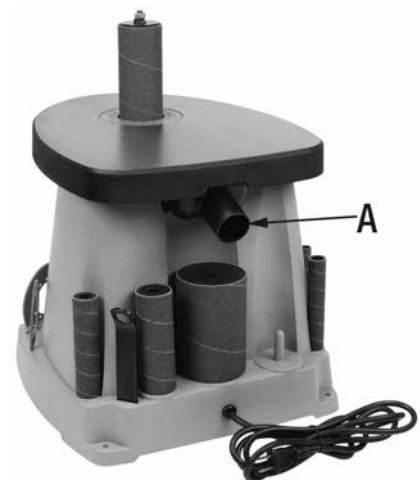

FIGURE 8
This Spindle Sander comes with a 1-1/2" dust chute (A) Fig.8 at the rear of the machine allowing for the connection to a shop vacuum or with the combination of adaptors (not included) for connection to a dust collector.